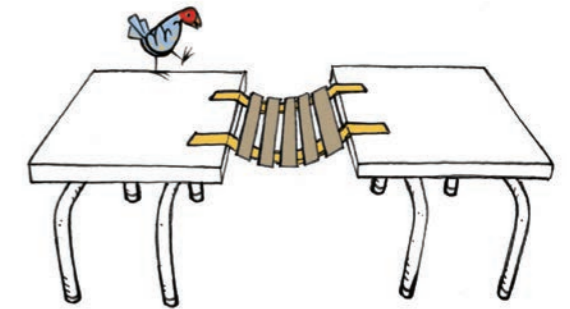

Figure 18
6. Do you think this suspension bridge in Figure 18 will be strong enough to support a small bird walking on it?